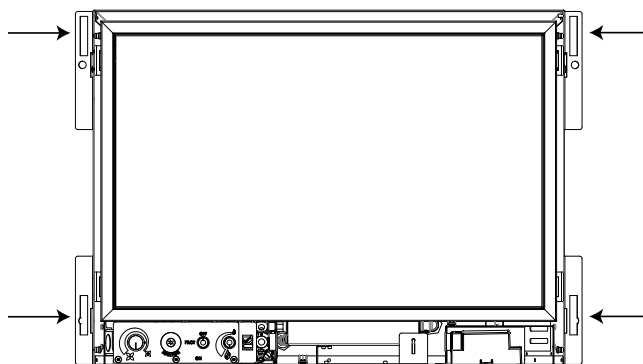

Figure 51: Hook Tab Locations.
1. Lift the face upright in front of the fireplace with the four (4) hooks pointing towards the tabs (see Figure 51) on the fireplace.
1. Attach the left, right, top/bottom brackets onto the safety screen using a T20 screwdriver and the supplied sixteen (16) #8 T20 screws (see Figure 51). Do not over-tighten the screws, doing so could cause them to strip out of the screen frame.